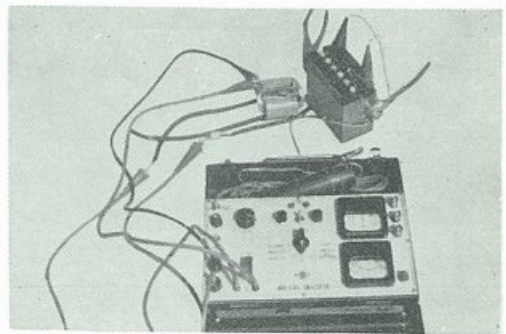

Fig. 10-2-9 Testing ignition coil
- a. Connect the ignition coil to be tested with the tester as shown in Fig. 10-2-9